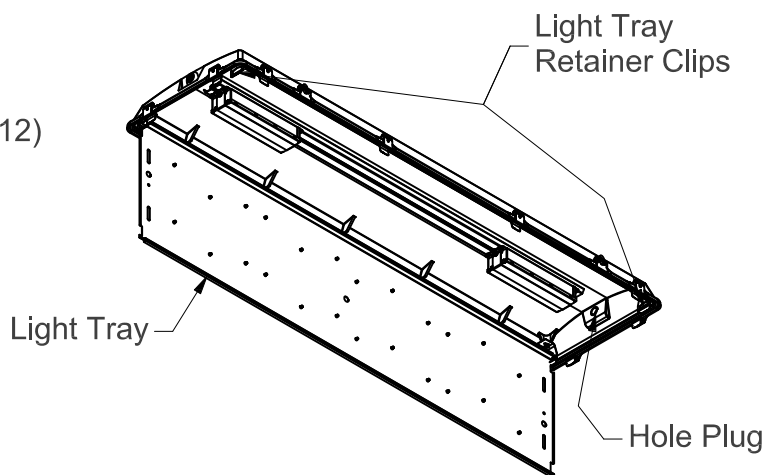

FIGURE 5
2. Open light tray by disengaging two of the retainer clips and hinge down (Figure 5).